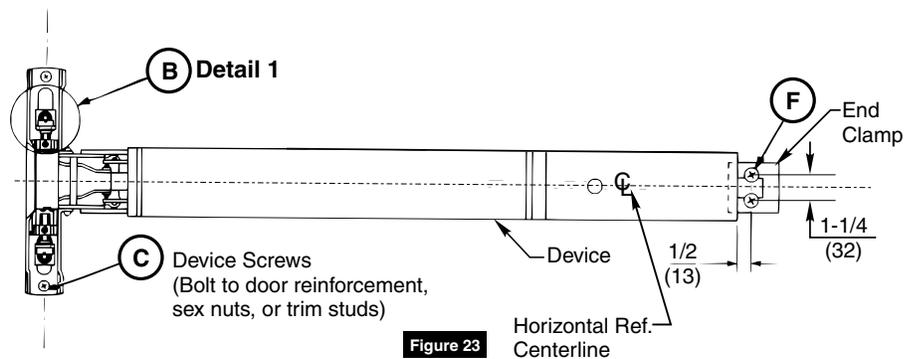
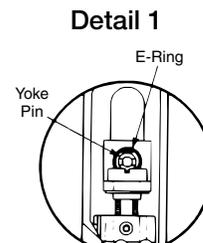

Figure 23
Figure 24
B. Seat device in place. (Figure 23) Connect device to arm and bracket assemblies using temporary screws to position yoke pins in latch head. Install e-ring into yoke pin grooves. (Detail 1 - Figure 24)
C. Fasten device latch head using two (2) 1/4-20 PRHMS or 3/8" (10) dia. SNB. (Figure 23)
F. Prepare end clamp holes and mount end clamp using two (2) 1/4-20 PRHMS or 3/8" (10) SNB. (Figure 23)